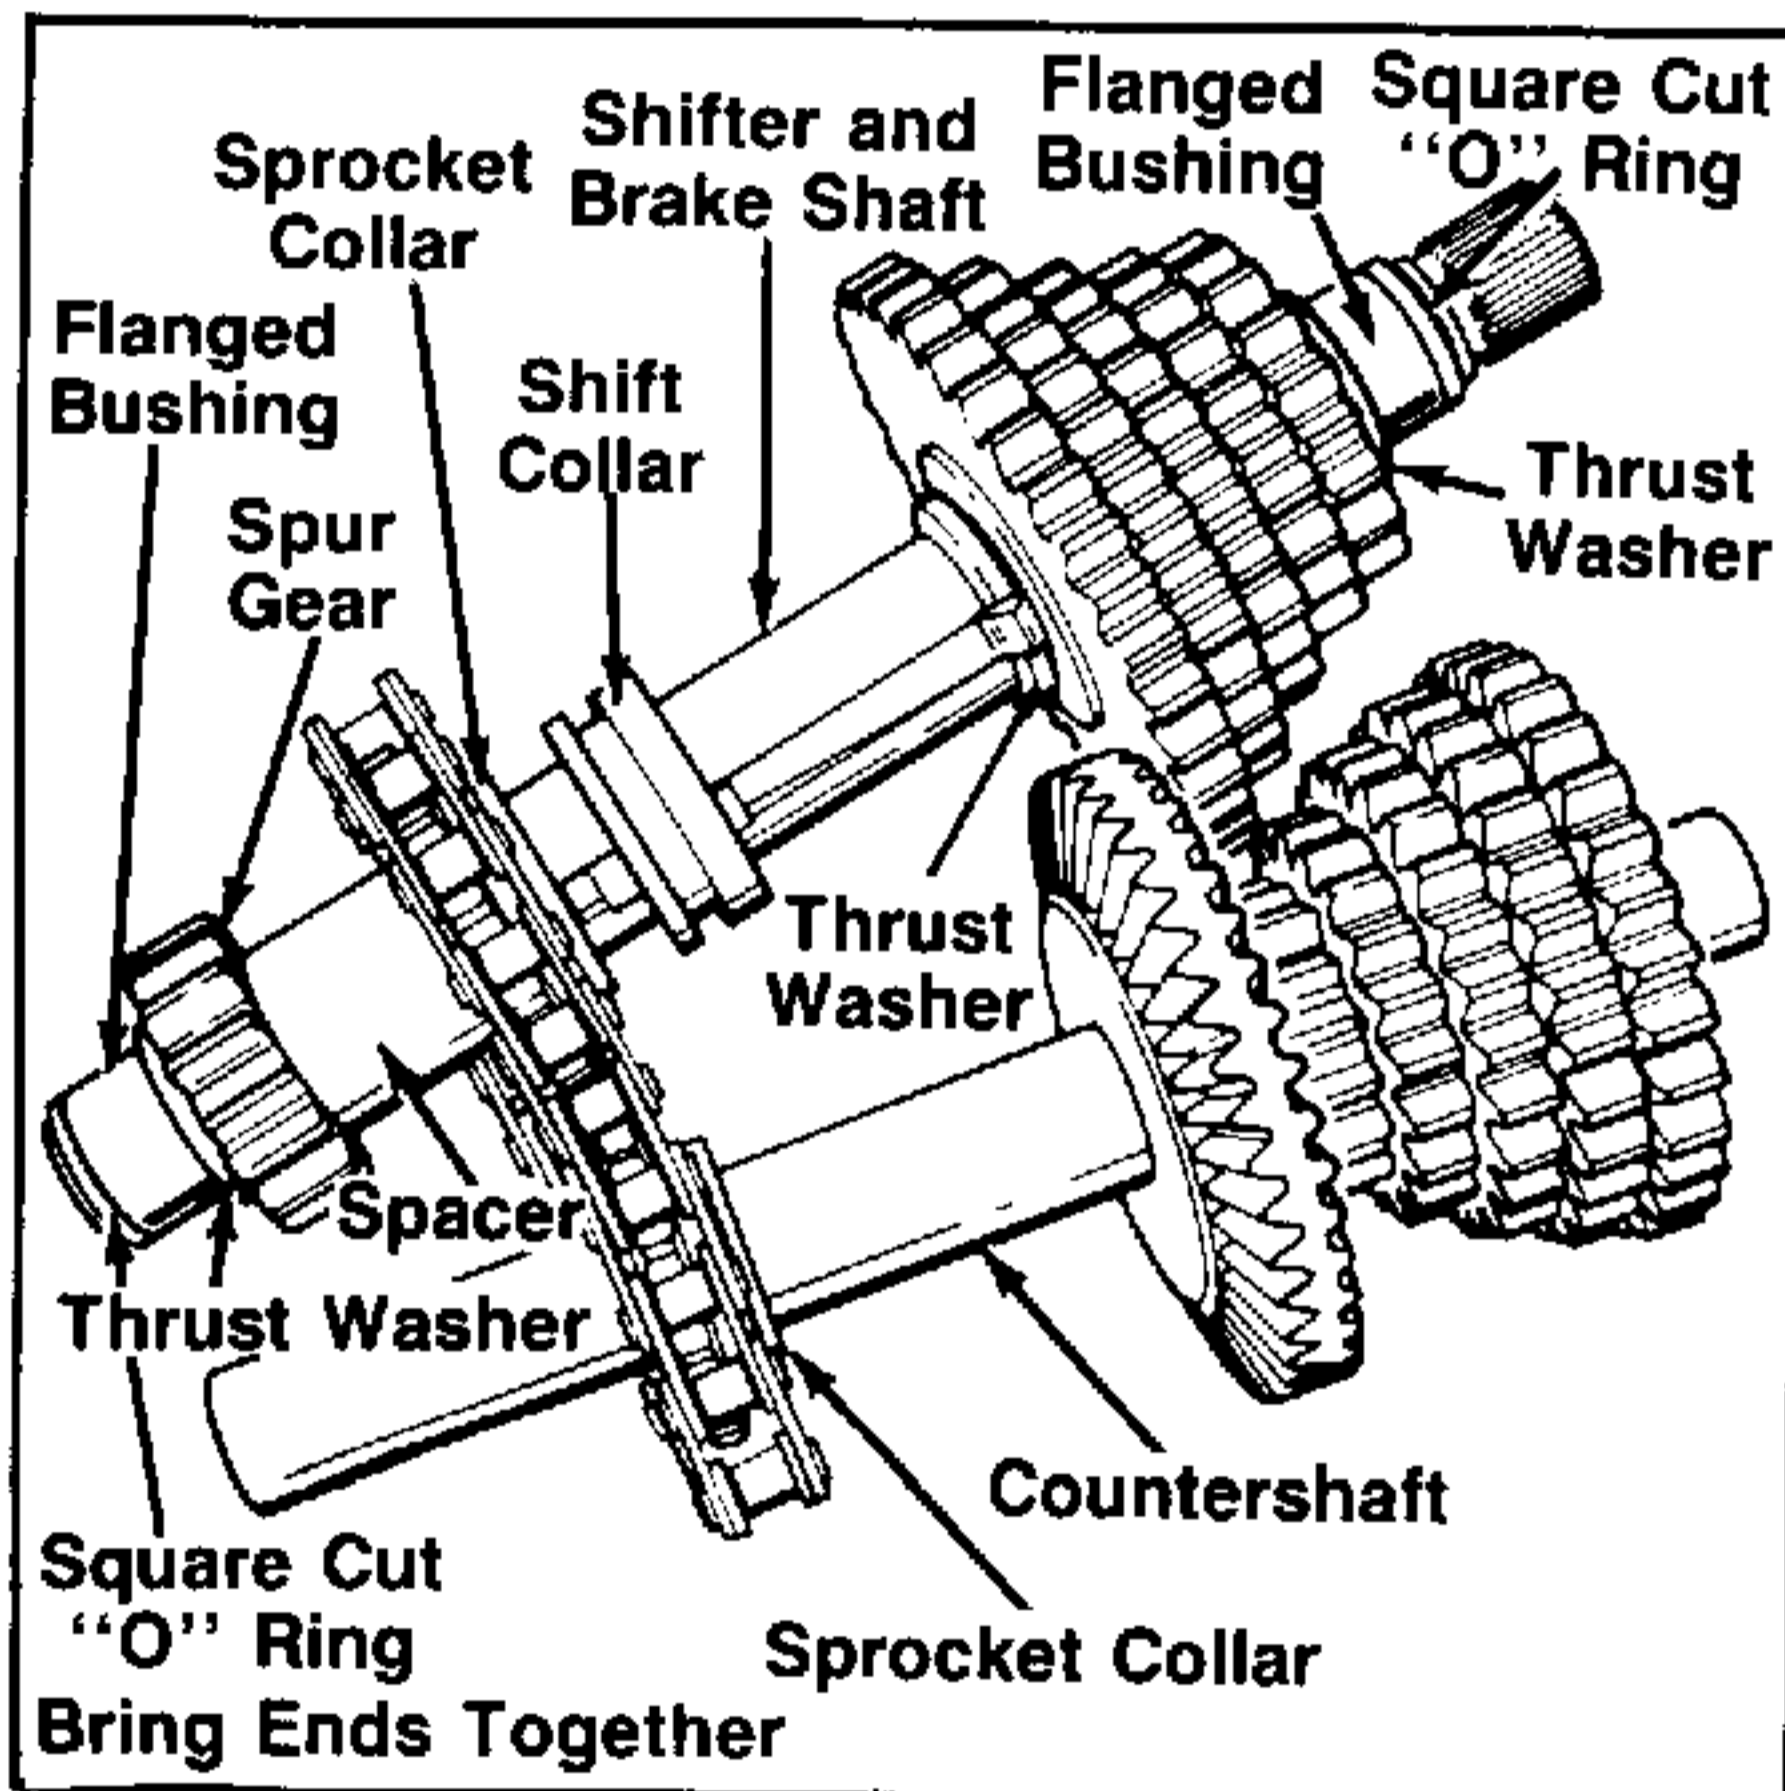

FIGURE 17.
- Angle the shifter and brake shaft and countershaft chain sprocket ends toward each other. Note the collar on the sprockets face the bevel gear. Remove chain. See figure 17.